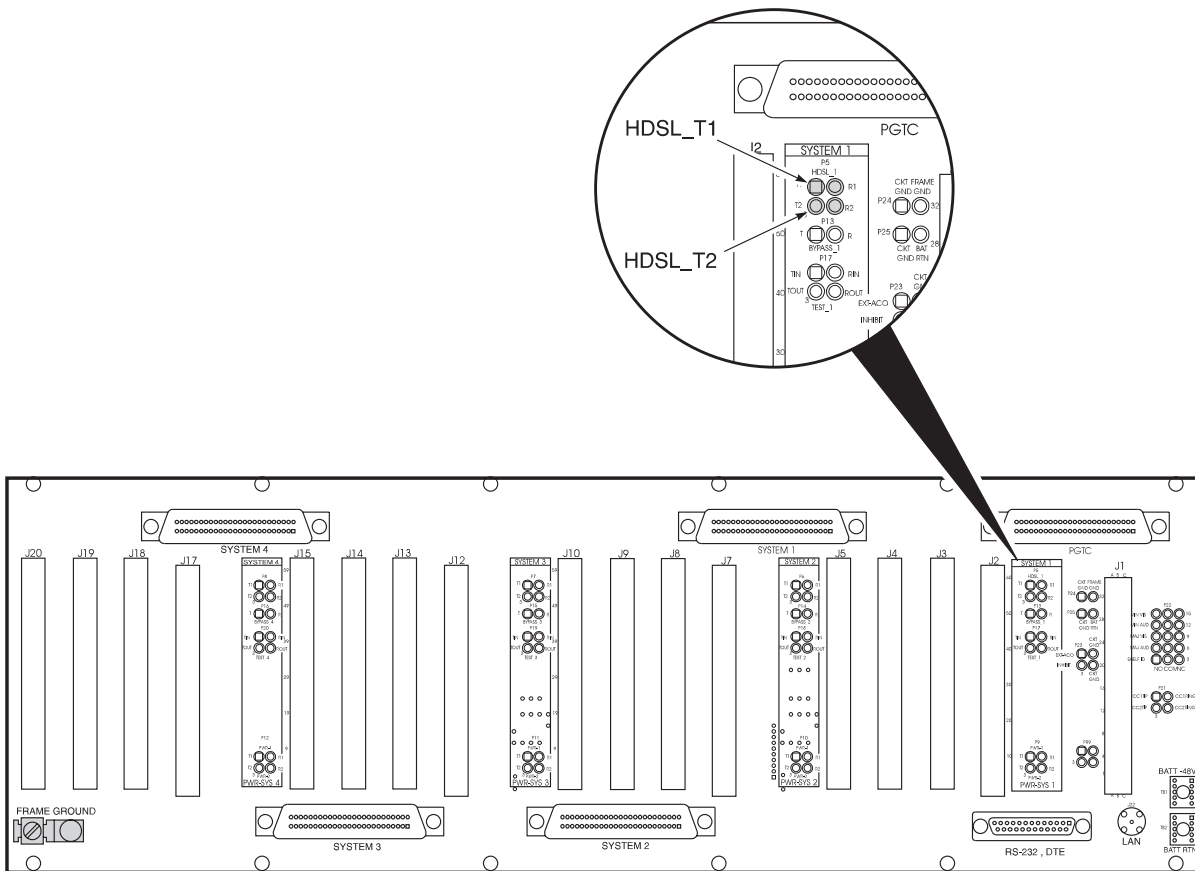

Figure 5. Connecting the HDSL Lines
8.1.3 To connect the HDSL lines (Figure 5):